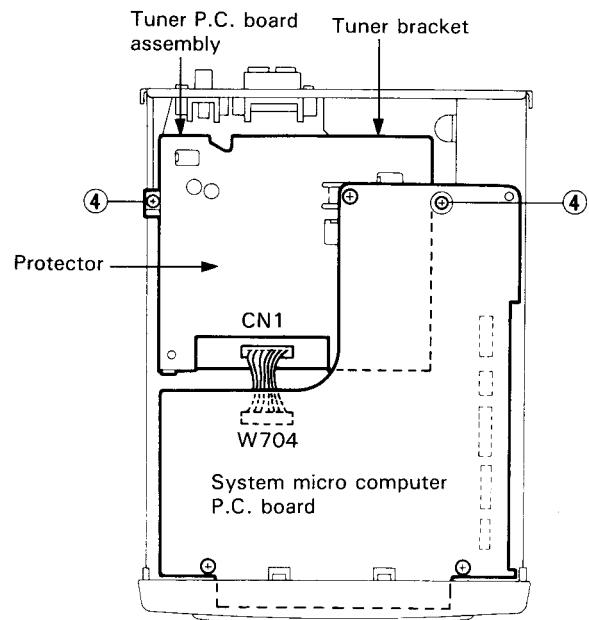

Fig. 7-7
(Refer to Figs. 7-7 ~ 7-9)**
3. From the tuner bracket, remove the two screws ④ retaining the protector covering the tuner P.C. board (Refer to Fig. 7-7).